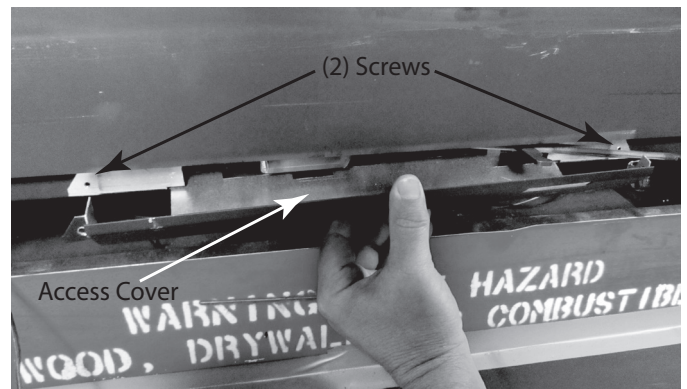

Figure 4.12 Remove Access Cover
- Remove two screws and take off access cover shown in Figure 4.12.